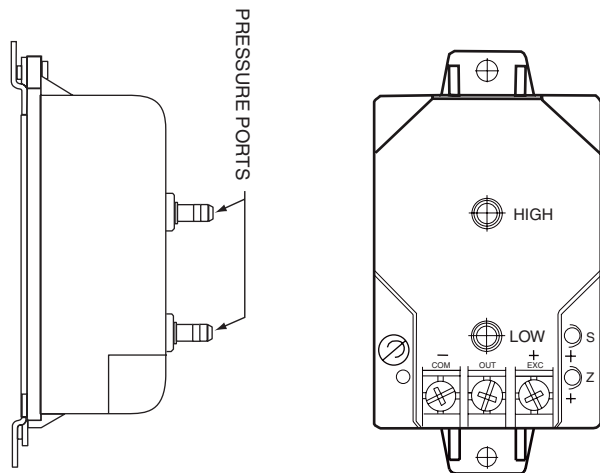

Fig. 48 — Transducer Details
3. Connect a 24-vdc power supply to transducer terminals EXC(+) and COM(-). See Fig. 48.
5. With both pressure ports open to atmosphere adjust the Zero (Z) screw potentiometer on the transducer and read the multimeter until the desired current output at 0 in. wg pressure is obtained (see Fig. 48).